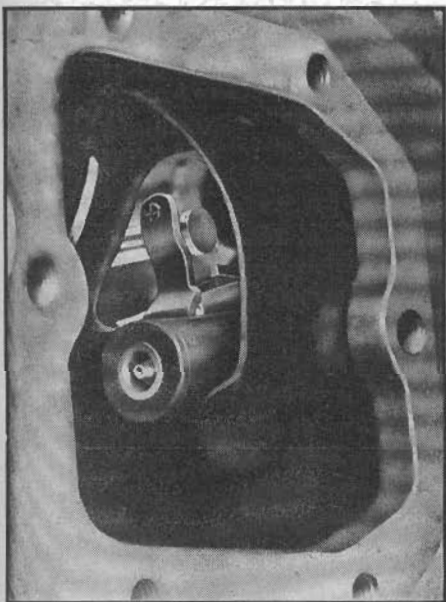

Fig. 70 Indexing manual valve inner lever and reaction lever. 1950-52
6. Install two $\frac{3}{8}$ -16x3¼" guide pins in turbine housing, then push case and turbine housing together, checking to see that reaction lever indexes properly with manual valve inner lever. Then install case-to-housing bolts and tighten securely. *Remove left hand sump cover to observe mating of manual valve inner lever and reaction lever, Fig. 70.*